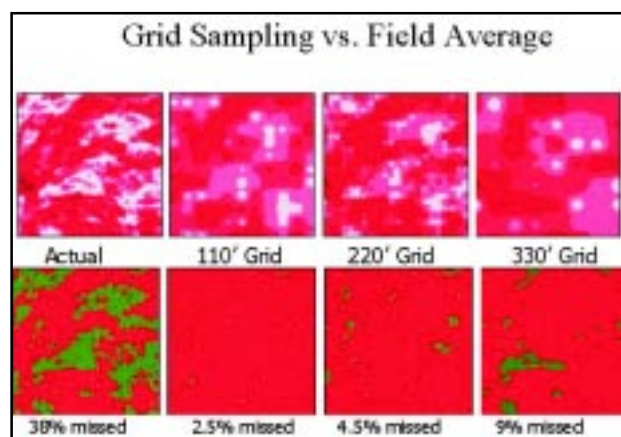

Figure 1. Comparison of sampling intensities for soil test P.
million data points to characterize the variability in phosphorus (P) soil test, he sampled the data set at different sampling intensities to determine the soil test levels and P recommendations for the field (see **Figure 1**). Using the field-average P test for determining P fertilizer needs, 38 percent of the field did not receive adequate fertilizer to meet crop needs. When a 110-foot grid was used to collect samples and generate recommendations, only 2.5 percent of the area needing P fertilizer was missed. On a 330-foot grid, 9 percent of the area needing fertilizer was missed, still much better than the field average recommendation. So even the coarser (2.5-acre) site-specific system is a better choice than the field-average system for ensuring crop nutrient supplies are adequate. Economics of the costs of sampling and the potential for improving profits with adequate nutrients will dictate which intensity will best fit a given field. It should be noted that the farm used in this study is relatively uniform, so more variable fields would show greater advantage to more intensive sampling and use of variable-rate fertilizer application.